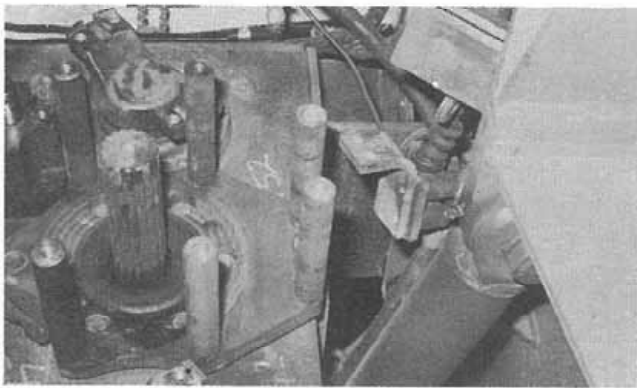

Figure 5:
7. Remove the brake lever intact with its bracket from the outer brake plate (Fig. 5) and proceed to remove the slave cylinder and bracket as an assembly. Leave the line connected to prevent loss of fluid while it hangs near the frame.